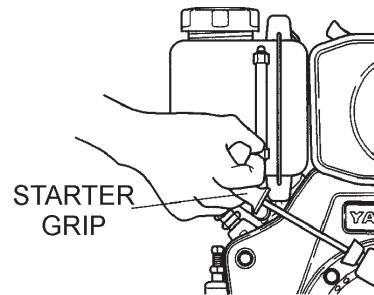

Figure 14. Starter Grip
4. Grasp the starter grip (Figure 14) and slowly pull it out. The resistance becomes the hardest at a certain position, corresponding to the compression point. Pull the starter grip briskly and smoothly for starting.